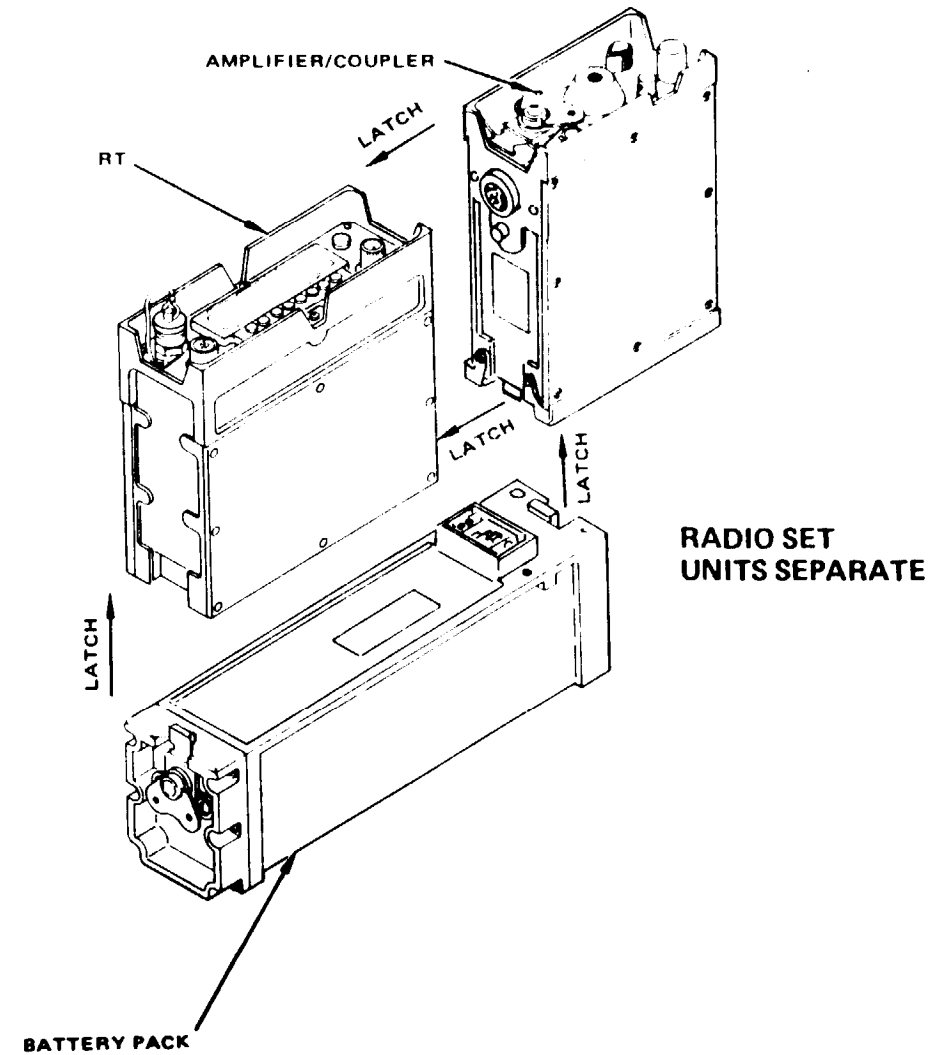

Figure 1-2. Radio Set Description
**RADIO SET DESCRIPTION, fig 1-2**